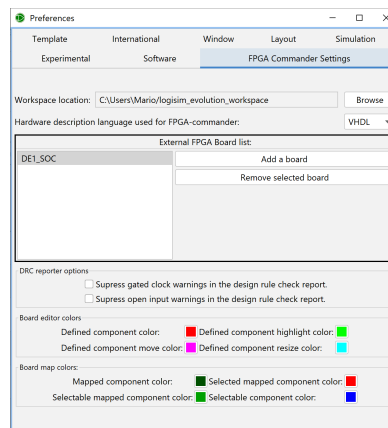

Figure 6: The Preferences: FPGA Commander tab
4. Click on the **Settings** button just above the **Target board** panel. A Preferences window should open (Figure 6). You should see `DE1_SOC_7seg` under **External FPGA Board list**.